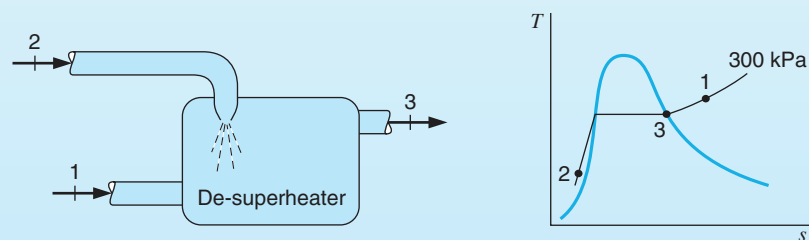

FIGURE 7.5 Sketch and diagram for Example 7.5.
C.V. De-superheater (see Fig. 7.5), no external heat transfer, and no work.